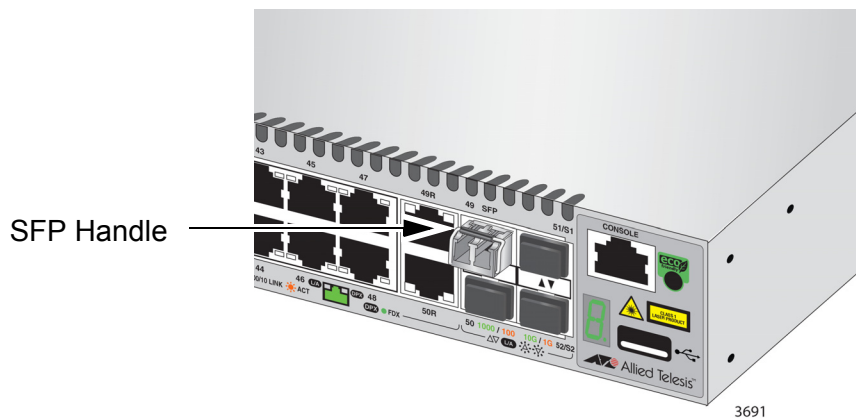

Figure 43. Positioning the SFP Handle in the Upright Position
6. Verify the position of the handle on the SFP transceiver. If the transceiver is in a top slot, the handle should be in the upright position, as shown in Figure 43. If the transceiver is in a bottom slot, the handle should be in the down position.